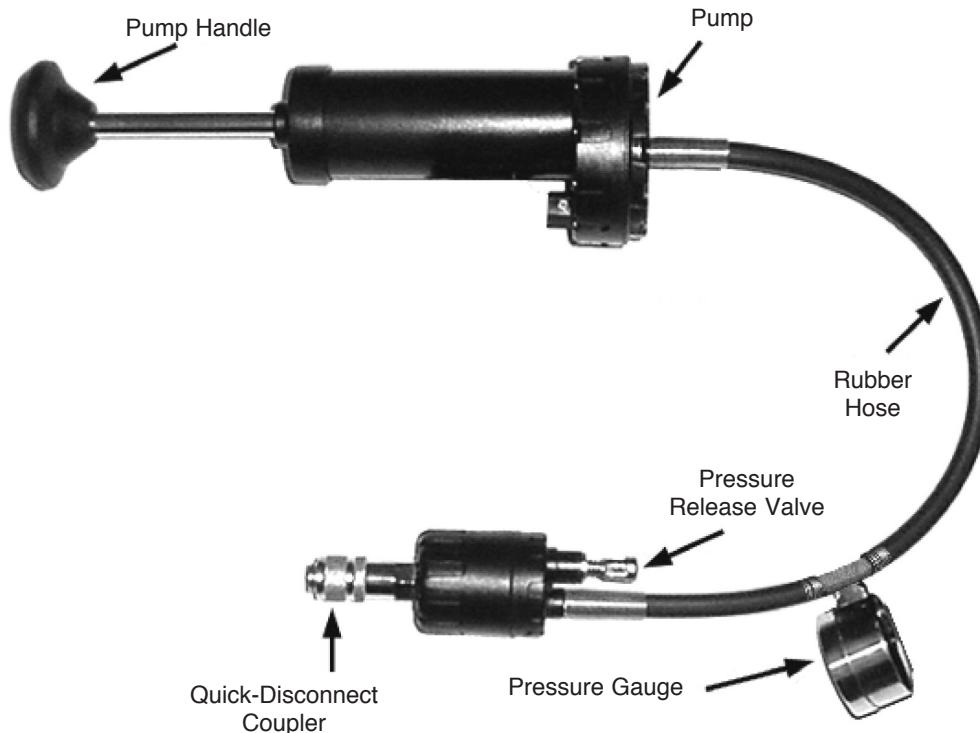

Figure 13
2. Clean the pressure cap gasket and ensure it is in good condition. Determine which cap adapter is correct for the cap to be tested. On new caps, wet the rubber gasket with water. Install the cap to the adapter. See Figure 13.